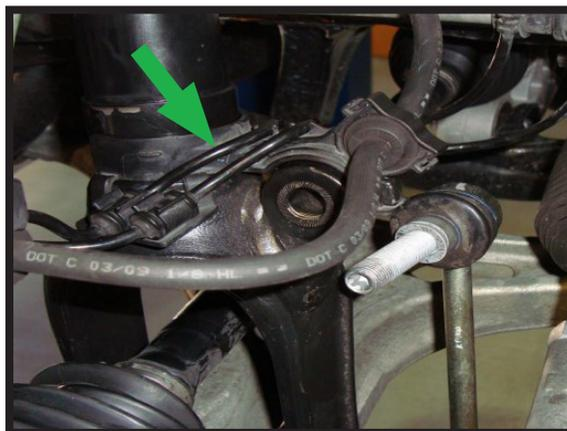

FIGURE 4
6. CUT THE CABLE TIE SECURING THE WIRE HARNESS MOUNT, THEN REMOVE THE WIRE HARNESS MOUNT FROM SHOCK. (FIGURE 4)